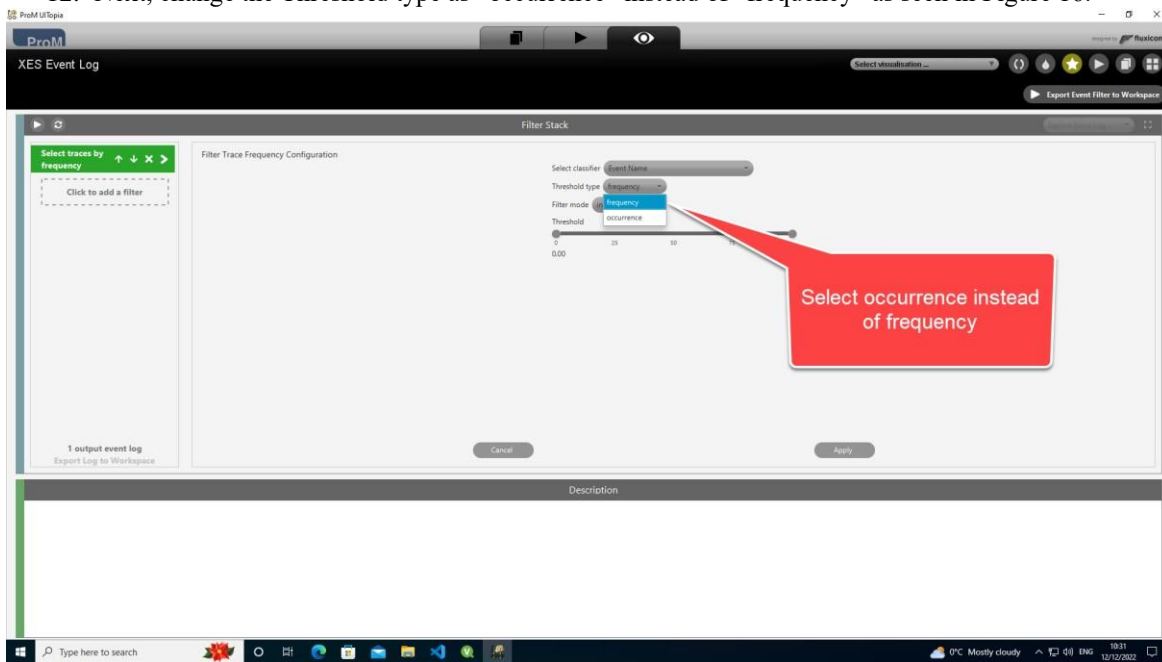

Figure 16 – Image showing how to select Frequency as Threshold type.
12. Next, change the Threshold type as “occurrence” instead of “frequency” as seen in Figure 16.